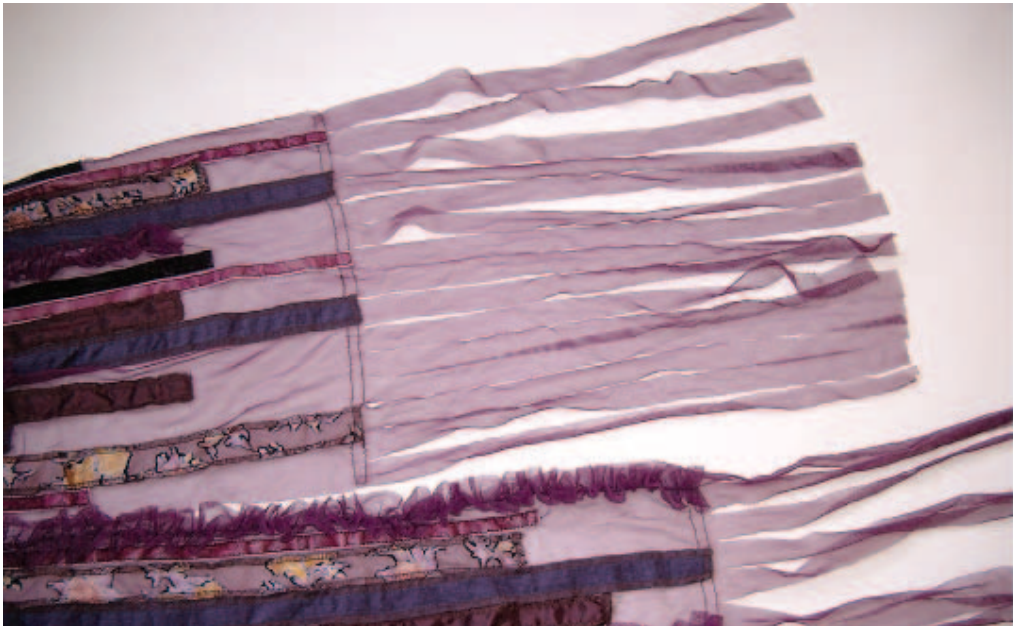

Figure 3 Scarf C
- (c) This part of the question refers to scarf C (**Figure 3**).